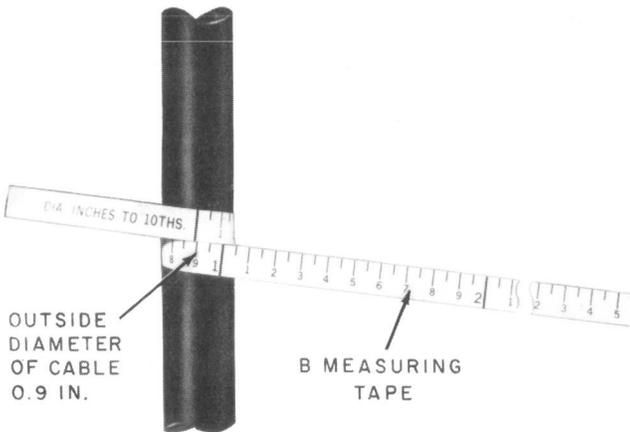

Fig. 6—B Measuring Tape
- (b) **B Measuring Tape (Fig. 6):** Used to determine the diameter of the cable.